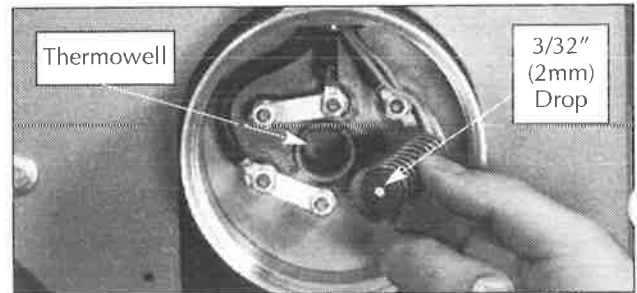

FIGURE 11
1. Remove temperature high-limit assembly and clean the inside of the thermowell (see Figure 11). A clean thermowell will ensure good thermal contact.
3. Apply a small drop, 3/32" (2mm) diameter, of heat sink compound to the center of the metal cap but do not spread. This is critical for proper thermal contact between the temperature high-limit and the thermowell (see Figure 11).